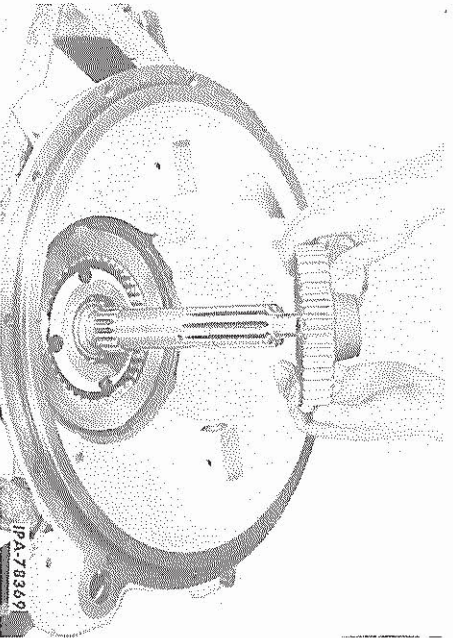

FIG. 10 — Removing the Clutch Brake Hub
8. Remove the snap ring securing the clutch brake hub to the clutch shaft and lift off the hub (Fig. 10).